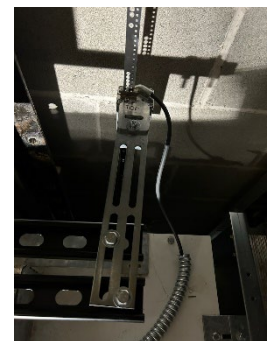

Figure 21: Sensor Mounting Plate Crosshead Installation
15. Install the Sensor Mounting Plate to the crosshead on top of the car, using the supplied unistruts, washers and screws. Make sure to align the sensor mounting plate with the tape as much as possible. See Figure 21